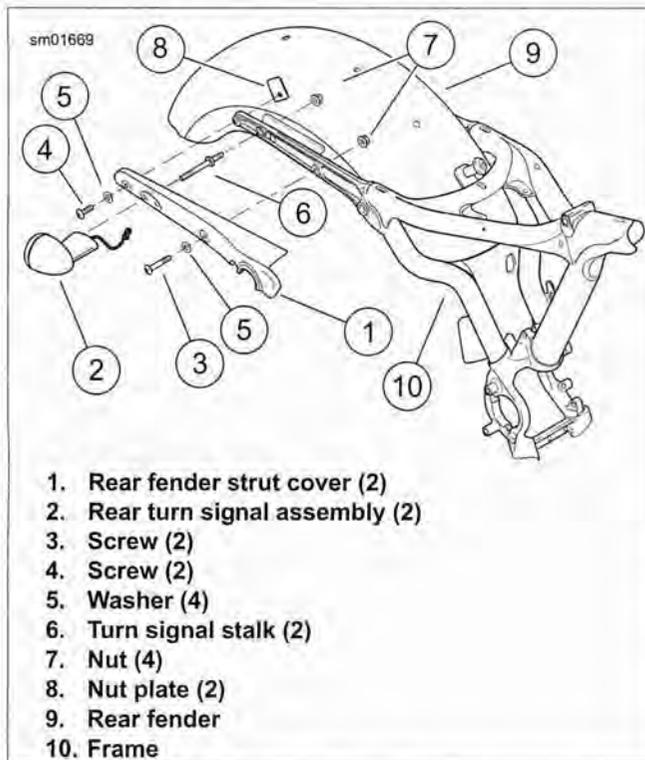

Figure 6-81. Rear Fender Mounting Components (typical)
7. See Figure 6-81. Remove screws (3, 4), washers (5), nuts (7) and nut plate (8). Remove rear fender strut covers (1) with attached turn signal assemblies (2) from rear fender struts. Carefully feed turn signal harnesses through holes in fender and fender struts as you remove the strut cover and turn signal assembly.
9. Unscrew and remove turn signal stalk (6) and fender strut cover (1) from each turn signal assembly (2). Mount will separate from turn signal housing.